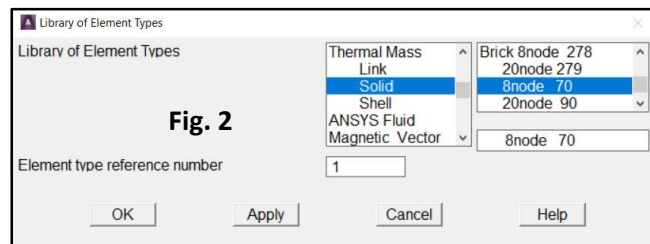

Fig. 2
2. Choose SOLID70 finite element: (brick 8-node) (*Preprocessor>Element Type>Add/Edit/Delete*) (Fig.2)